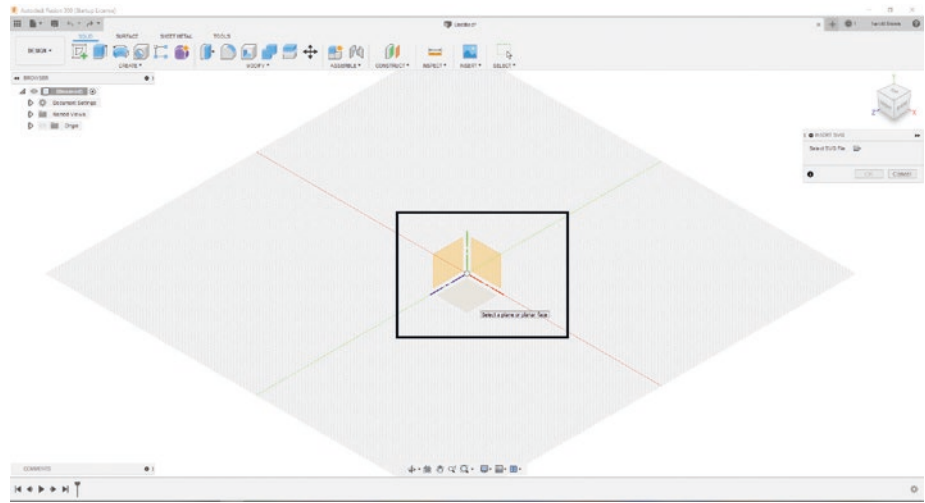

Figure 3-35. Select plane
- 4. Select the plane that you want the SVG image to be placed on to. See Figure 3-35.